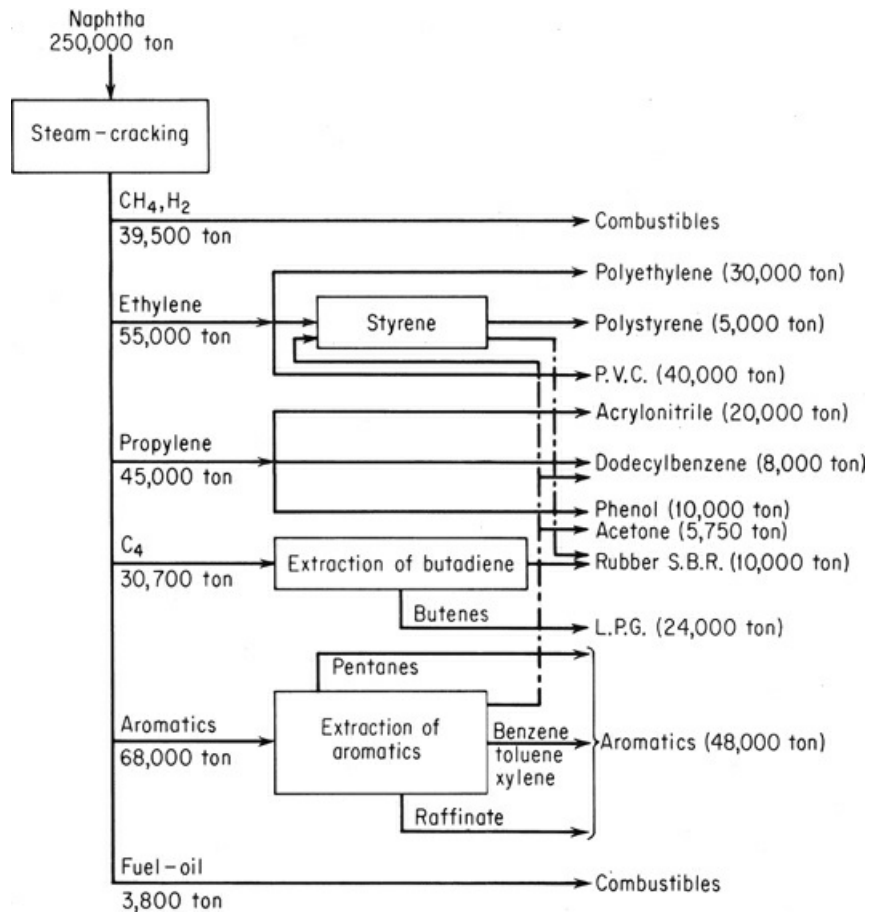

Figure P3.2.16
****3.2.16** Examine the flowsheet in Figure P3.2.16. Does the mass in equal the mass out? Give one or two reasons why the mass does or does not balance.